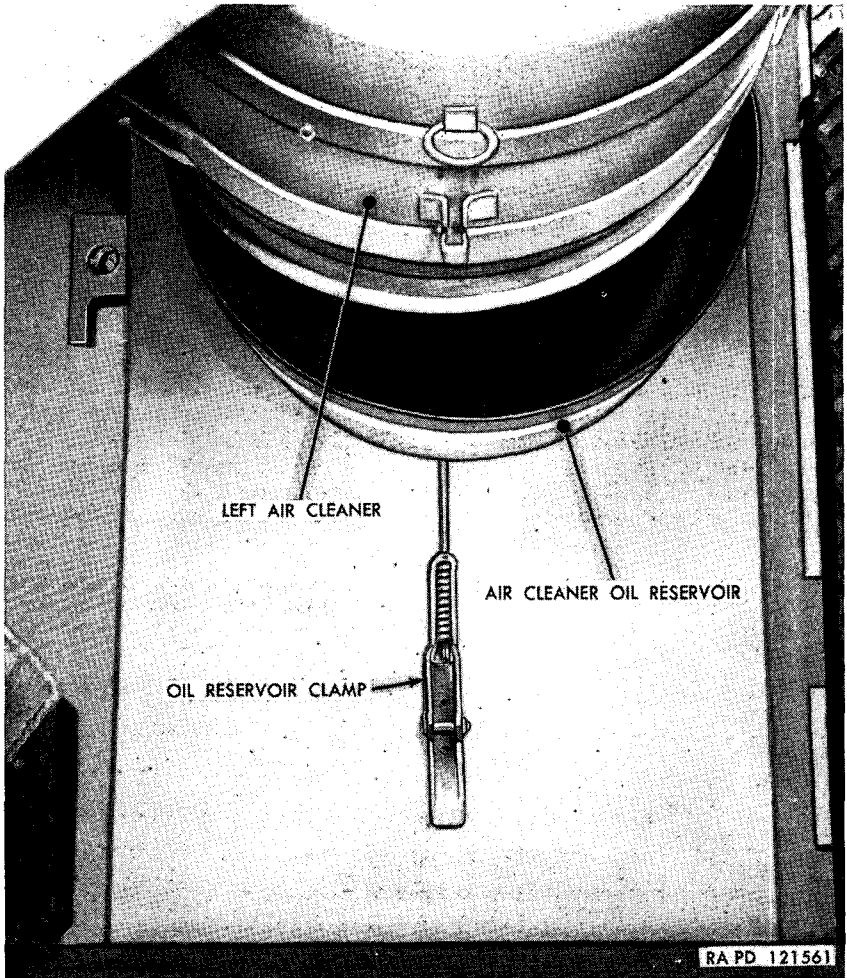

Figure 145.—Removing air cleaner oil reservoir.
- (1) *Remove air cleaner oil reservoir* (fig. 145). Disengage oil reservoir clamp. Turn oil reservoir slightly to release from air cleaner, and remove.
- (2) *Clean oil reservoir and replace oil.* Pour the old oil out of reservoir. Scrape accumulated dirt from the reservoir and clean with a cloth soaked with volatile mineral spirits or
- (3) *Install air cleaner oil reservoir* (fig. 145). Position oil reservoir under air cleaner. Lift into place and turn slightly. Connect oil reservoir clamp.